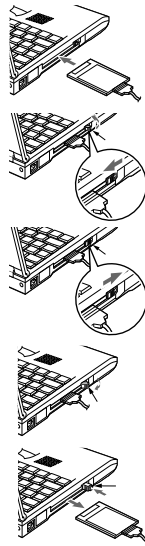

Figure 5-8 Installation and Removal of a PC Card
3. Insert the PC Card in the card slot, with the product name label facing up. (See Figure 5-8.)
6. When the card is installed, lock it in place by sliding the lock button to the right. (See Figure 5-8.)
9. Grasp the card and pull it clear of your notebook. (See Figure 5-8.)